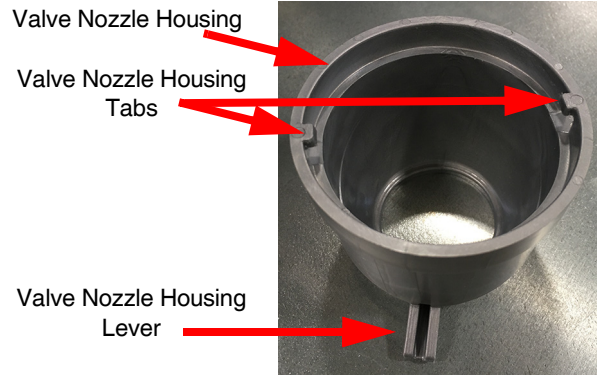
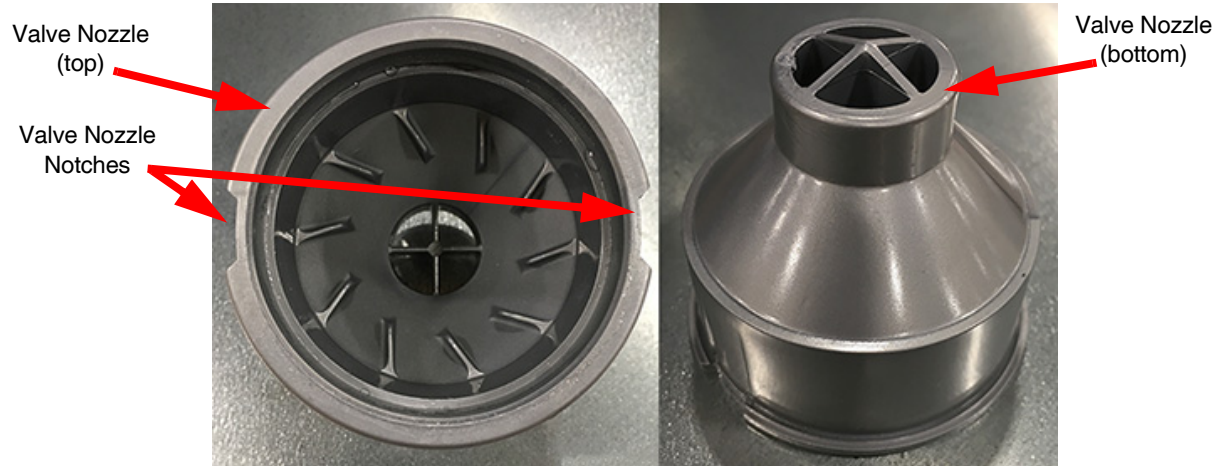

Figure 15
Figure 16
Result: The valve nozzle is removed from the unit, as shown in Figure 16.
Note that the top of the valve nozzle is notched to line-up with the valve nozzle housing tabs (shown in Figure 15) when these components are placed back into the unit.
-) With the diffuser in place, place the valve nozzle in the valve nozzle housing so that the notches in the valve nozzle line up with the tabs of the housing. See Figure 15 and Figure 16, above.